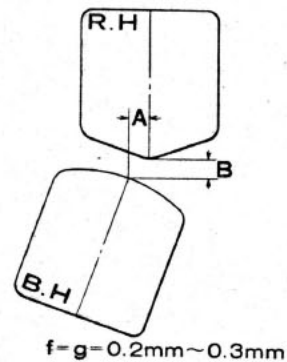

Fig. 4
- As shown in Fig. 4, Gaps A and B, which are between the Recording and Bias Heads, should be about 0.2 mm.